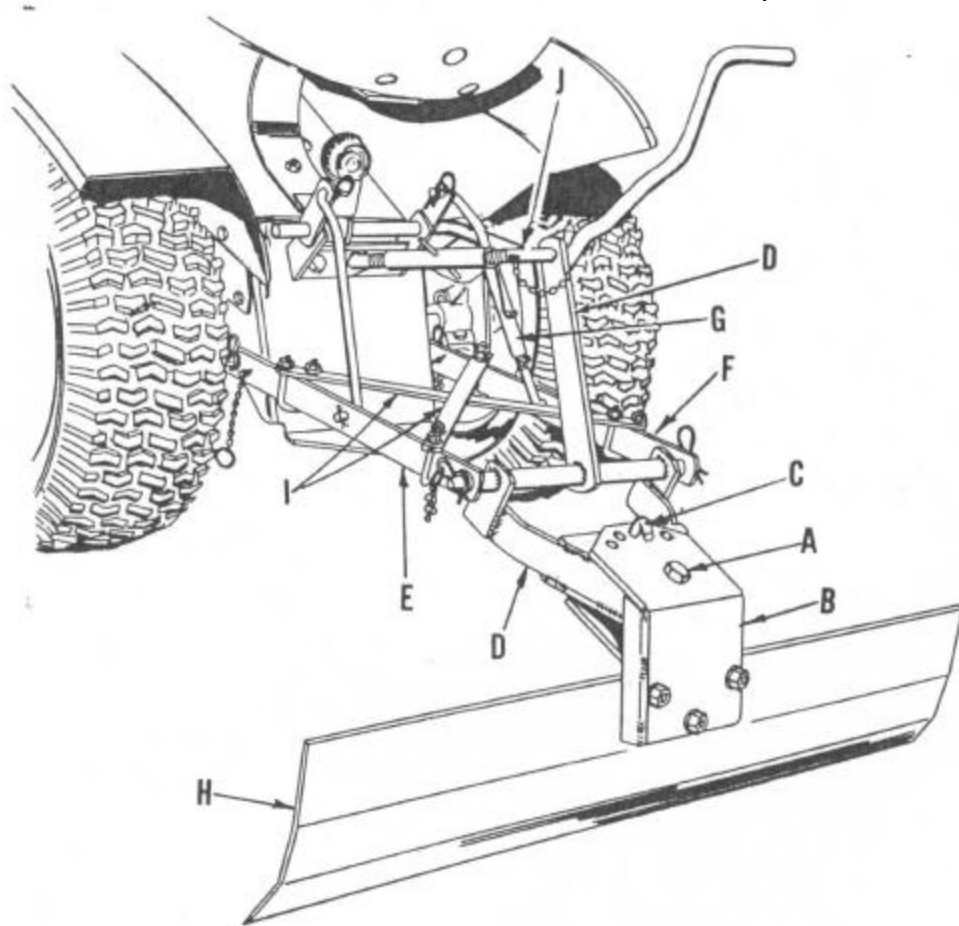

FIG. 1
A letter in parentheses in the following instructions refer to Fig. 1, above.
6. Position the two hitch braces (I) over L.H. and R.H. bottom links (E and F), as shown in Fig. 1. Secure with the four U-bolts, lockwashers and hex nuts shipped in bag of parts.
7. Assemble top link of three point hitch (J), to frame weldment (D), as shown and secure with spring retainer.